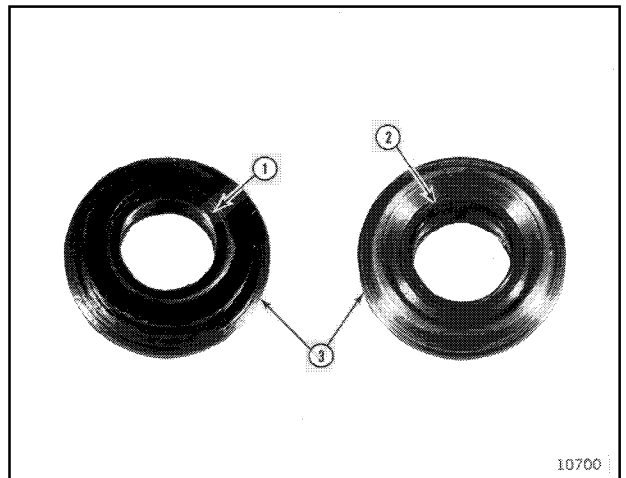

Figure 11
12. Remove upper seal (1, Figure 11) and lower quad ring seal (2) from seal gland bushing (3), refer to cleaning and inspection section for appropriate service.